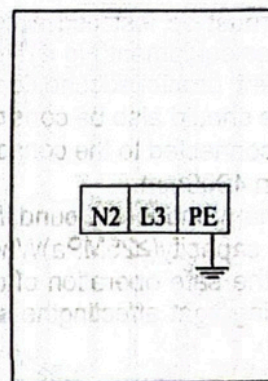

图 2
- If it is a 220V single-phase power supply, connect the 220V power cord to the PE ground wire on the N.L terminal of the console (Figure 2)